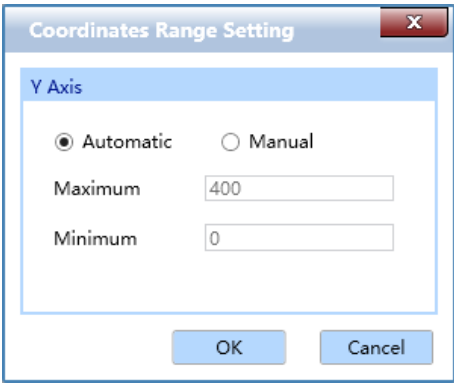

Figure D-7.1a. Run Monitoring Interface - Coordinate Range Setting
- ▶ <  **Y-axis Coordinate Adjustment** >: user can adjust the Y-axis coordinate of the real-time fluorescence monitoring diagram. Please click <  **Y-axis Coordinate Adjustment** > icon and the coordinate range setting box will pop up automatically, as shown in figure D-7.1a. User can select **Automatic** or **Manual** option in the coordinate range setting box to set the Y-axis coordinate. If the **Automatic** option is selected, the application software will automatically adjust the Y-axis coordinate according to the detected fluorescence value; if the **Manual** option is selected, user can manually enter or use  and  keys to set the maximum and minimum value of Y-axis coordinate range in the **Maximum** and **Minimum** input box and click < **OK** > to confirm.